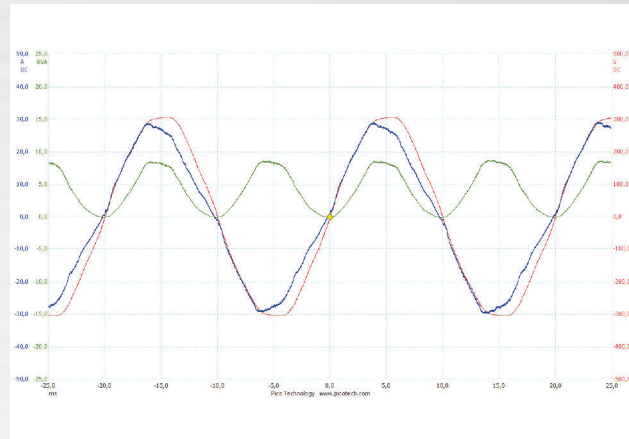

ABB. 17: The course of mains voltage (red), mains current (blue) and the calculated power consumption (green) with an RMS value of 4220 VA.
The current drawn from the grid should follow the voltage in its course as far as possible and the amplifier should thus behave in a manner comparable to a real resistance as a load for the grid. Deviations are caused by displacement reactive currents (capacitive or inductive) and by distortion reactive currents (upper wave component). How well the current curve approaches the voltage curve is expressed using the power factor (PF). **FIG. 17** shows the IPX10:8's measurement at full load. Apart from a slight offset and some distortion of the curve shape, the current curve (blue) follows the voltage curve (red) very well. The power factor is 0.99. Such a value is achieved by an active processor-controlled PFC circuit (Power Factor Correction).